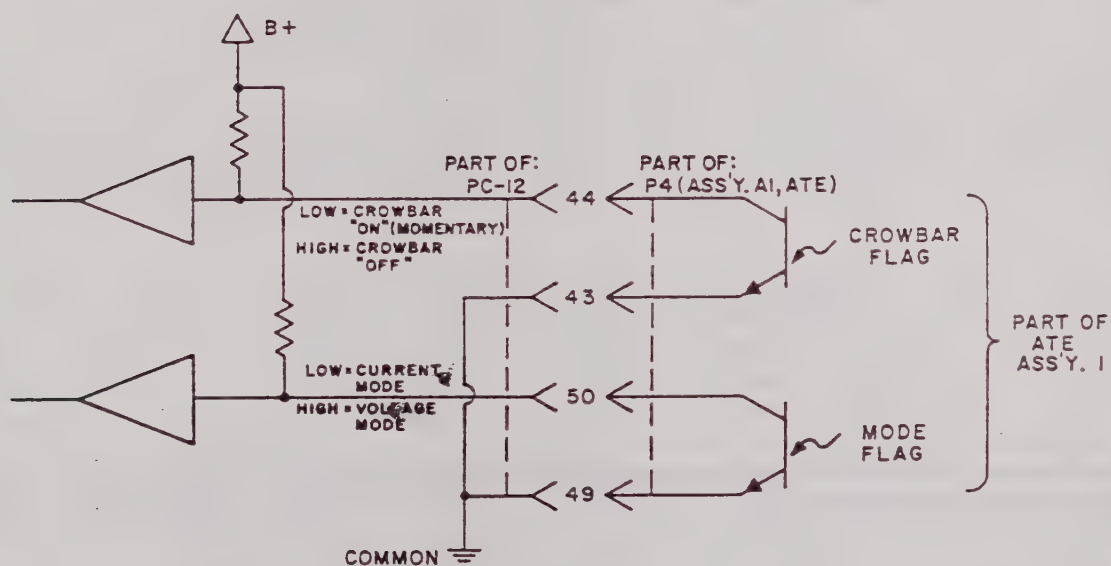

FIG. 3-31 ISOLATED FLAG SIGNAL OUTPUTS.
SEE FIG. 3-31
122 Two opto-isolated flag signals are provided at the rear programming connector (PC-12). One of them signals the ATE operating mode (Voltage or Current Mode), the other one provides a signal to indicate that the ATE crowbar has been tripped. Both flag signals consist of the Collector/Emitter terminals of a Photo-Transistor Optical Isolator and change their impedance from high to low if activated. The ATE flag signals may be converted to TTL logic signals as indicated in FIG. 3-31. The photo transistors are capable of sinking at least one (1) standard TTL load (1.6mA). Since the crowbar flag signal is followed by the shut-down of the ATE power supply, the flag signal is the form of a pulse, rather than a permanent level shift.